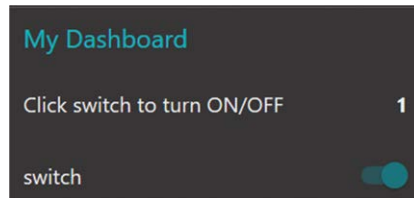

Figure 8.27 Turn the LED ON and OFF
- Join all the nodes and click **Deploy** and display the Dashboard as shown in Figure 8.27. Click the switch to turn ON/OFF the LED